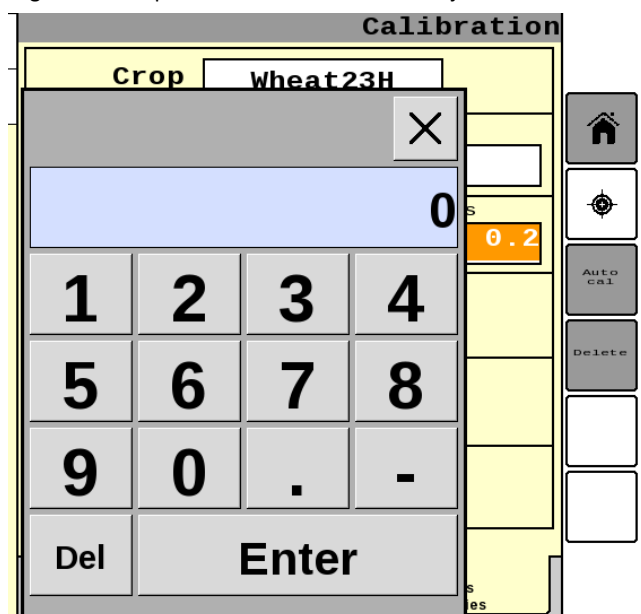

Figure 5.9 CropScan Virtual Terminal Bias Adjustment keyboard.
- iii. Press on the Bias factor you want to adjust. Type in the new Bias factor using the pop up keyboard as shown in figure 5.9.